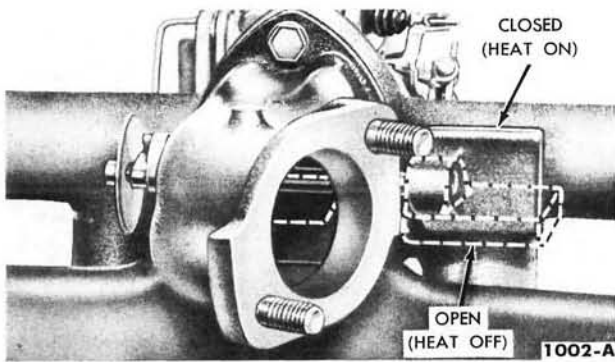

FIG. 11—Exhaust Gas Control Valve
4. Insert the shaft through the bushings and valve plate. Rotate the shaft in the valve plate until the counterweight is in the normal "up" (heat on) position (Fig. 11).